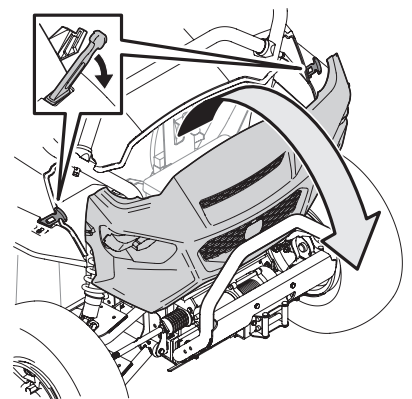

Figure 4-7
1. Remove hood latches and lower the hood. See Figure 4-7.